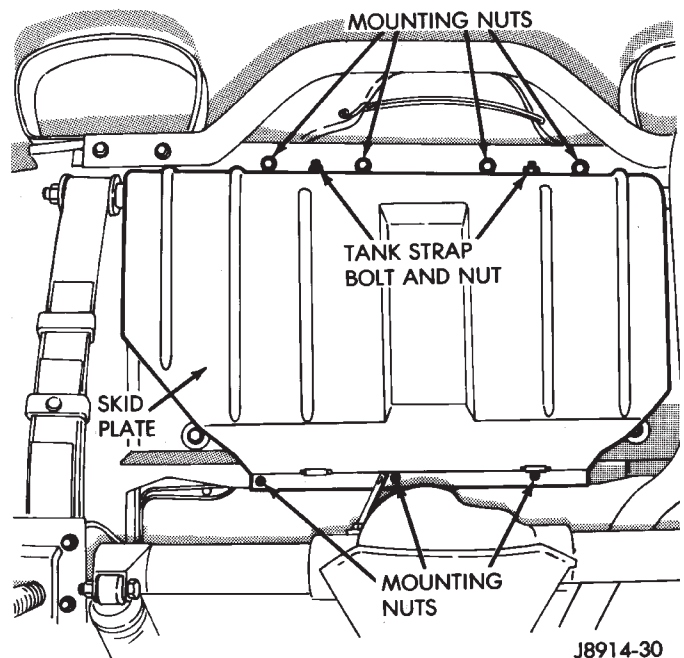

Fig. 7 Fuel Tank—Remove/Install—YJ Models
- (7) Centrally position a transmission jack under skid plate/fuel tank assembly.
- (8) Remove skid plate/fuel tank assembly mounting nuts (Fig. 7). **Do not loosen tank strap nuts.**